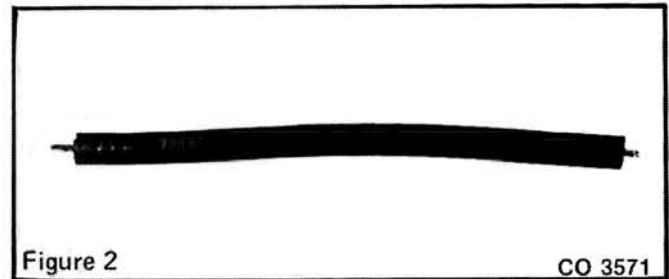

Figure 2
2. To replace ignition coil P/N 581997, cut high tension lead to 4-³/₄" long. To replace ignition coil P/N 581862, cut high tension lead to 6" long. Strip back the insulation approximately 1/8 inch. Finished lead should be as shown in Fig. 2.